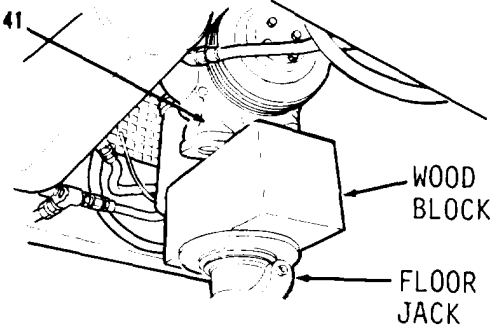

Figure 5-55.
- 11. Using floor jack and wood blocks, support oil pump (41, Figure 5-55).
1. Using floor jack and wood blocks, position oil pump (41, Figure 5-55) at rear of engine compartment.